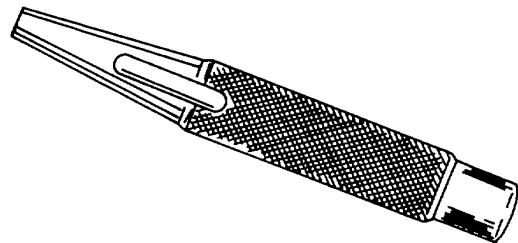

Figure 4-64. Hollow Punch
b. *Hollow Punches*. Hollow punches are used to cut holes in thin, soft metal or other items such as rubber, cork, leather, or paper. Figure 4-64 shows a typical hollow punch.